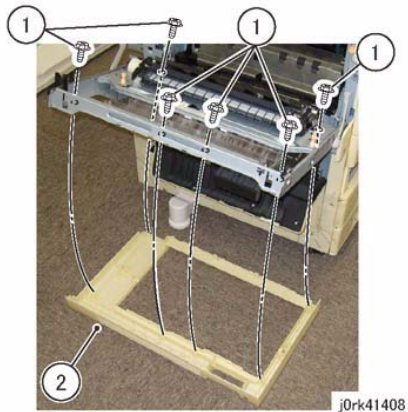

Figure 2 L/H Cover
5. Remove the L/H Cover. (Figure 2)